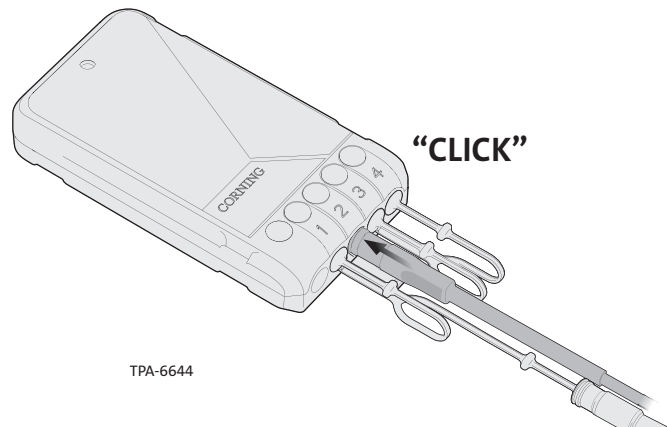

Figure 29
Step 3: Insert the drop connector into the terminal port, until the button clicks and the latch is engaged (Figure 29).